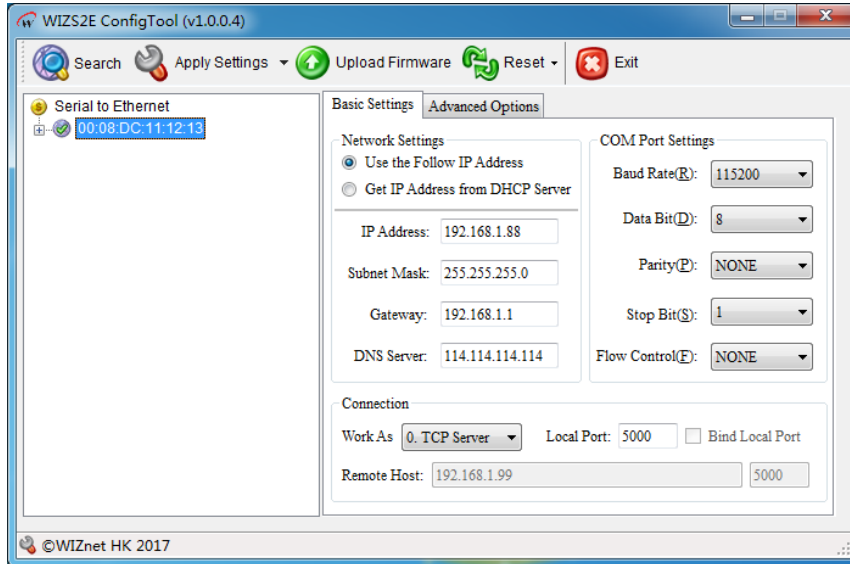

Figure 4-2 WIZS2E ConfigTool search result
3. Press  button, it shows the IP address information as the following figure 4-2.